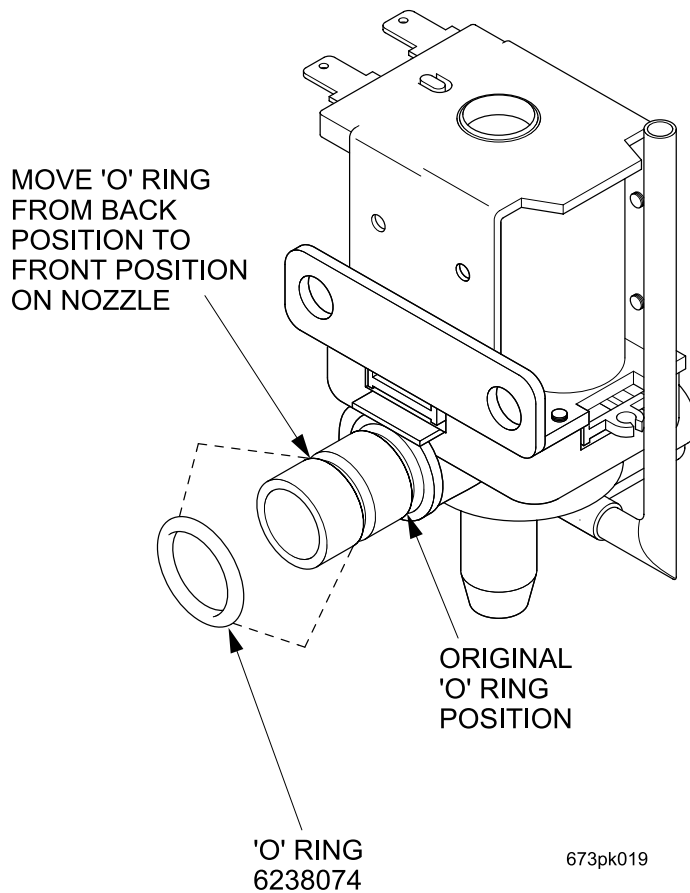
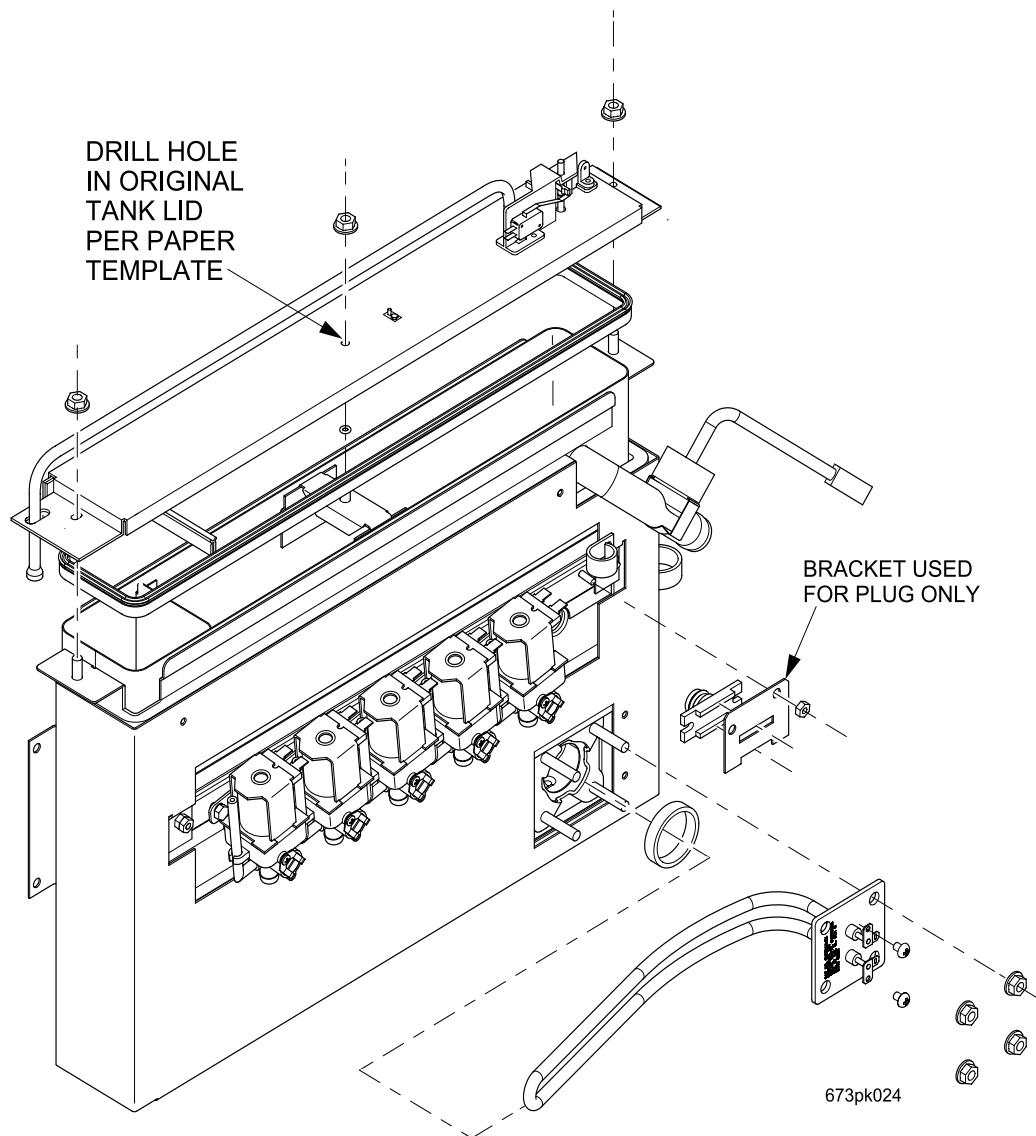

Figure 3
Figure 4
14. Install all of the water valves except the number one hot water valve and the heater element to the new water tank. We strongly recommend that you replace the heater element gasket and O-rings on each water valve. If you are using older National water valves, you need to place the O-ring in the first position as shown in figure 3. Note: If plugs are being used in place of the water valve, you must secure them using the plug brackets (part #6738046).As shown in figure 4.